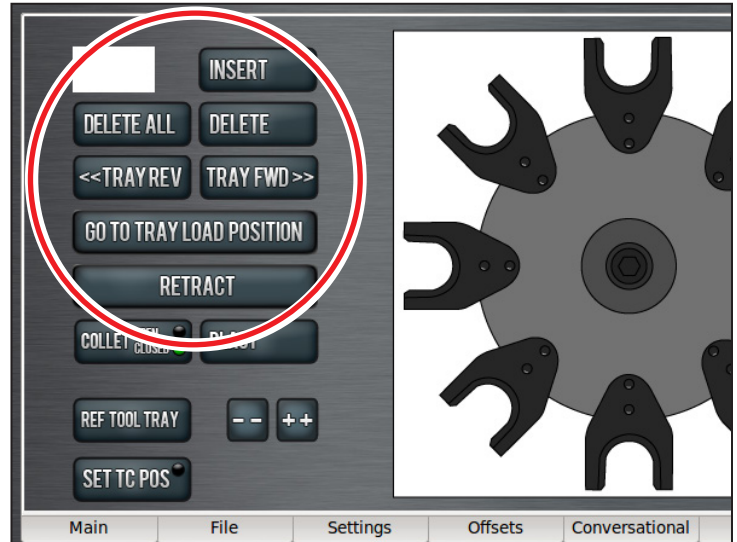

Figure 35
1. From the PathPilot interface, on the *ATC* tab, click the *Go To Tray Load Position* button (see **Figure 35**).
3. From the *ATC* tab, type the tool number into the *Insert* DRO field (see **Figure 35**). Press *ENTER* on the keyboard.
4. Click the *Insert* button (see **Figure 35**).
5. Click the *Tray FWD* button or the *Tray REV* button (see **Figure 35**).
6. Click the *Retract* button (see **Figure 35**).